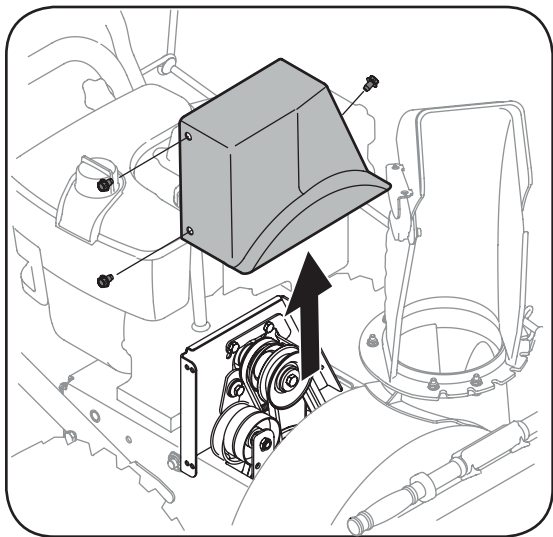

Figure 23
2. Remove the plastic belt cover, located near the engine, by removing the three self-tapping screws that secure it. See Figure 23.